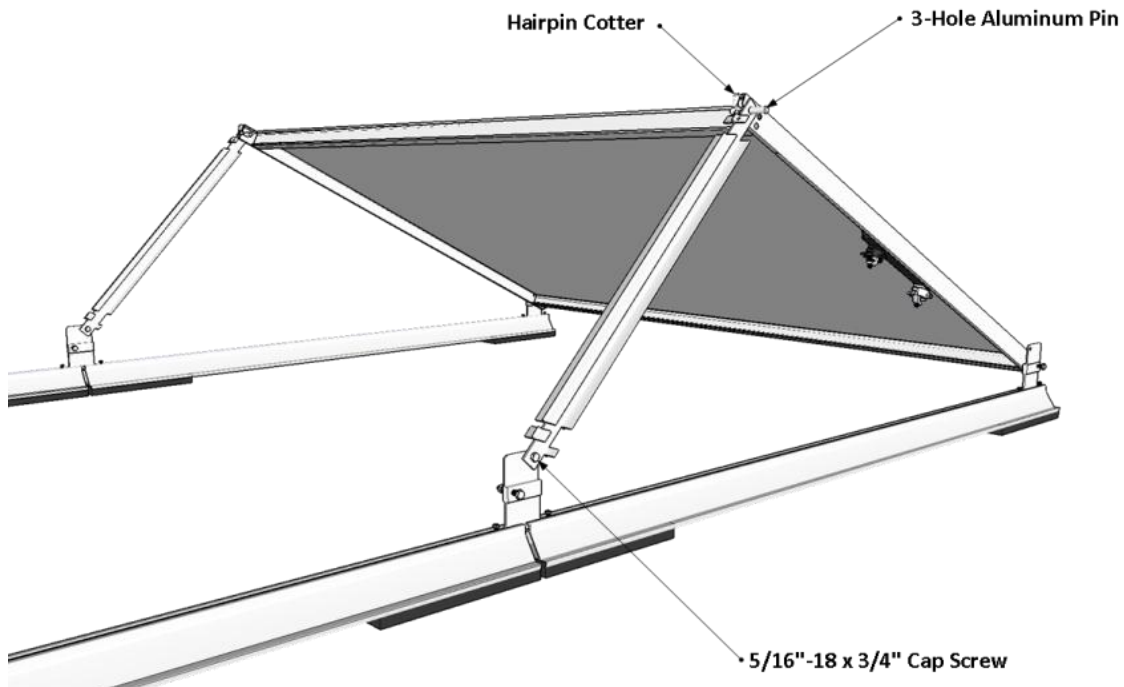

Figure 11
Step 8: Connect Module to Reflector Struts – Figure 11